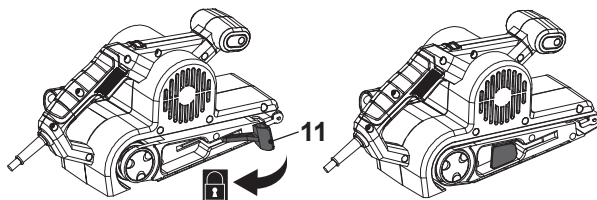

Fig. 3
3. Press the clamp lever (11) back in. Slightly pull on the sanding belt (8) to test if it sits properly in place (Fig. 3).